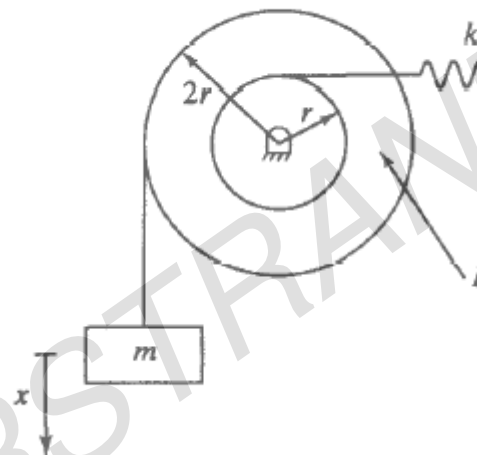

Figure 6:
1. Determine the frequency of oscillations for the system shown in figure 6. Also determine the time period if  $m = 4$  kg and  $r = 80$  mm. [16]